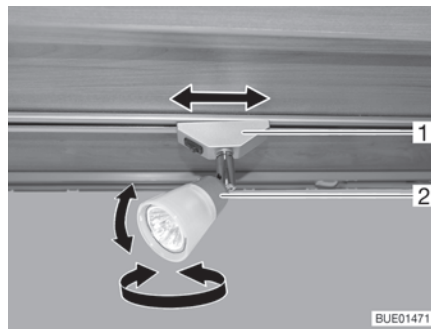

Fig. 53 Spotlight
- Turn housing (Fig. 53,2) of the spotlight to the desired direction. The housing can be turned in following directions:
- Turn holder (Fig. 53,1) through approx. 45°.
- Turn holder (Fig. 53,1) through 90°.